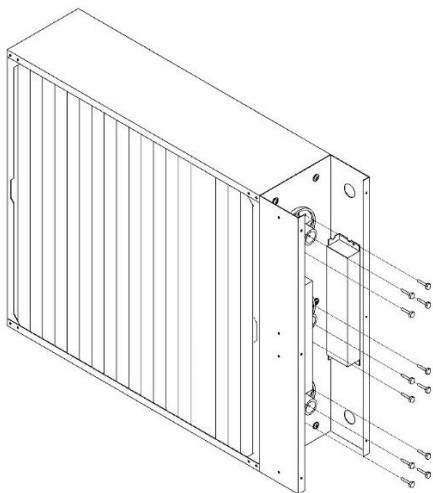

Figure 12
6.) Lamps are attached to catalyst panel with (4) 10-16 Self-Drilling screws per lamp. Remove the screws using a 5/16" socket. See Figure 12.
10.) Reinsert (4) screws per lamp using a 5/16" socket. See Figure 12.